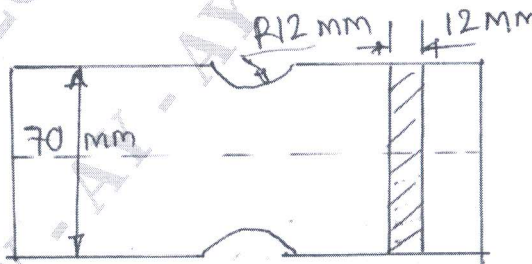

Fig. Q2 (b)
- b. A rectangular plate with semi-circular groove of radius 12 mm as shown in Fig. Q2 (b) is subjected to, (i) Tensile force of 10 kN (ii) Bending moment of 15 N-m. Determine the maximum stress induced in each case. (10 Marks)